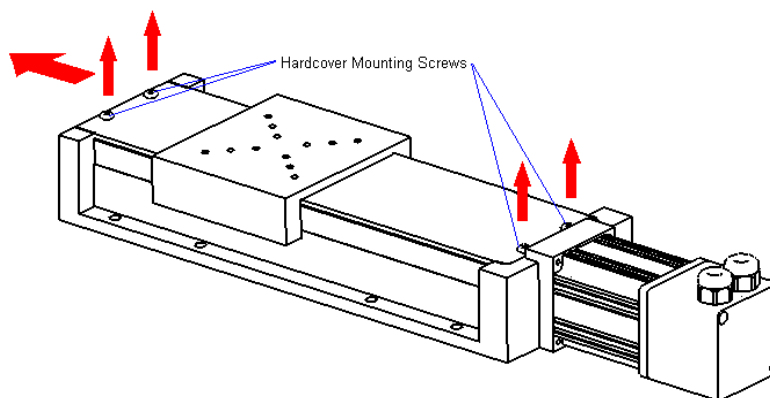

Figure 4-1: Hardcover Removal Procedure
2. Remove the screws on the edges of the hard cover (Figure 4-1) and slide it out from the side opposite of the motor. This can be done without removing the table.